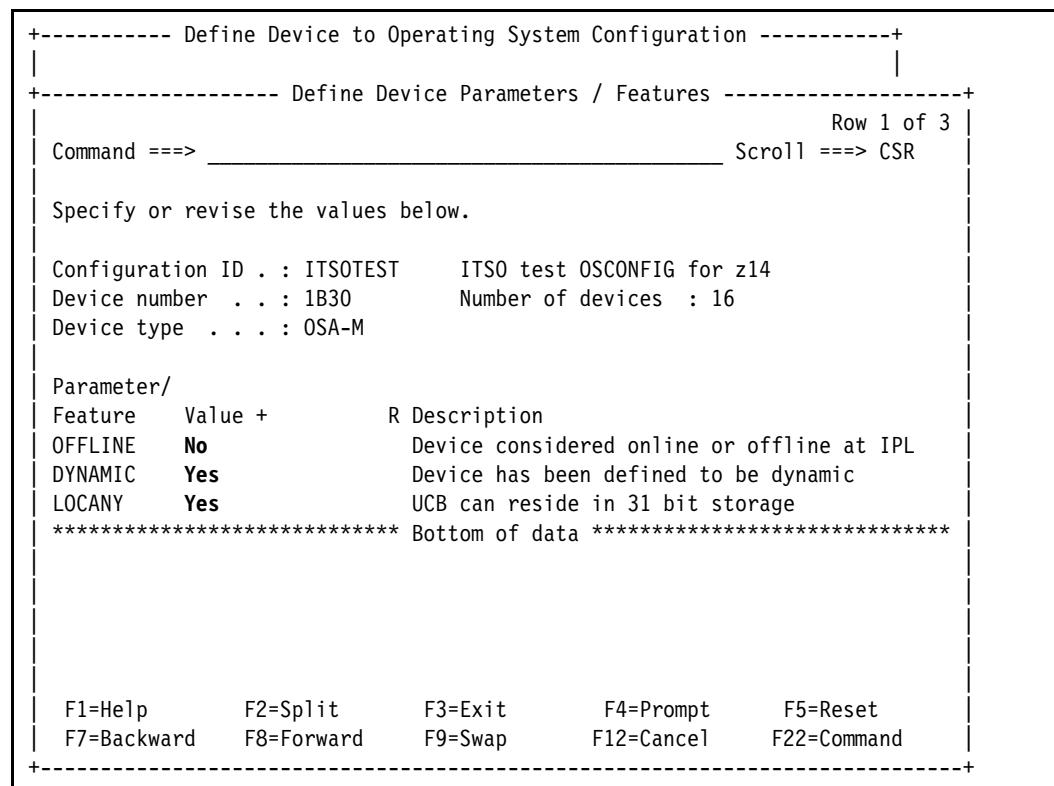

Figure 13-55 I/O Devices: Define Device Parameters / Features, OSM
6. Make the following updates to define the Processor / CU connection (Figure 13-55 on page 351), and press **Enter**: